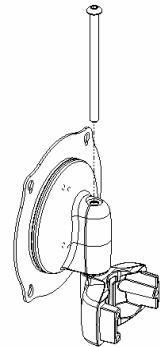

Figure 9
7. Replace regular 5/16-18 x 4.5" screw in JTS head assembly with the supplied Security screw (see Figure 9).